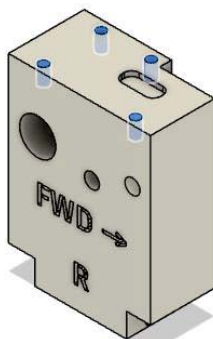

Figure 0-2
- 4 holes at the top of the right block. Refer to Figure 0-2